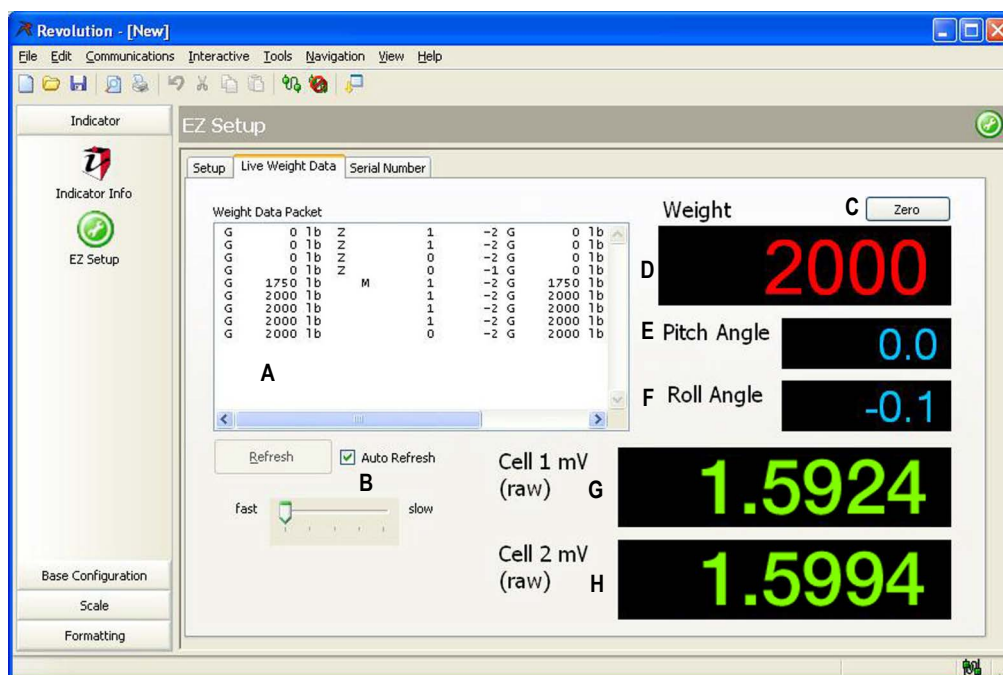

Figure 4-7. Revolution Live Weight Data screen.
1. Select the *Live Weight Data* tab (Figure 4-7).
NOTE: *Weight data packet screen shows output format of CLS-M3. Other displays include weight, pitch angle, roll angle, cell 1 & 2mV. (Figure 4-7). This is the information that will be sent to the customer supplied hand-held device when attached through Bluetooth.*